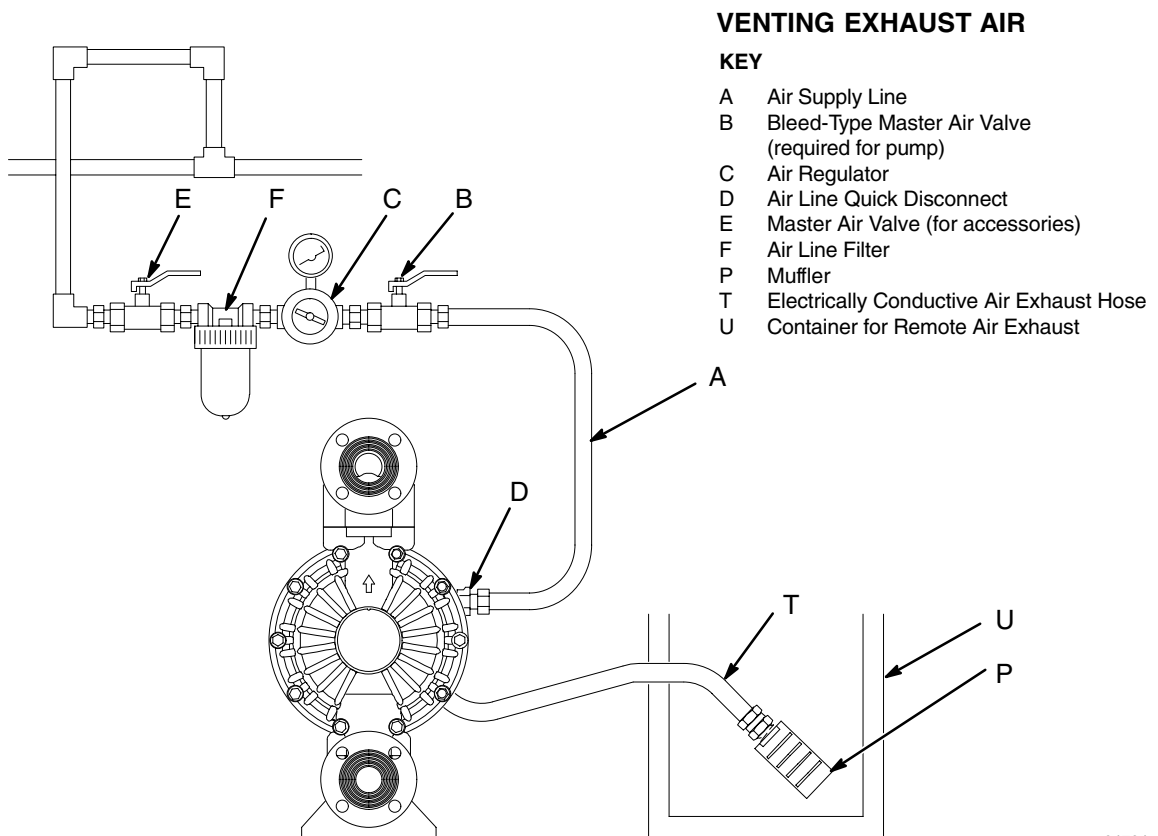

Fig. 6
Diaphragm failure will cause the fluid being pumped to exhaust with the air. Place an appropriate container at the end of the air exhaust line to catch the fluid. See Fig. 6.
1. Remove the muffler (P) from the pump air exhaust port.
2. Install an electrically conductive air exhaust hose (T) and connect the muffler (P) to the other end of the hose. The minimum size for the air exhaust hose is 19 mm ID. If a hose longer than 4.57 m is required, use a larger diameter hose. Avoid sharp bends or kinks in the hose. See Fig. 6.
3. Place a container (U) at the end of the air exhaust line to catch fluid in case a diaphragm ruptures.